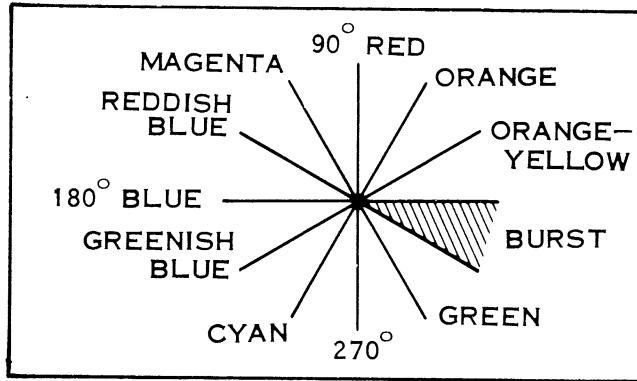

Figure 6-12. Vector Pattern Analysis
- d. Turn on television set and adjust 454 horizontal and vertical (CH B and CH A) VARIABLE gain controls for a round pattern perimeter. (Refer to Figure 6-12).